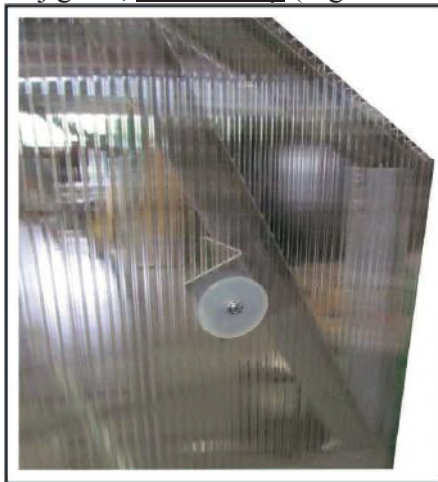

Fig. 18.1
18. The side parts of polycarbonate for the back and the front are fixed analogically. We apply the polycarbonate sheet (700x1950 mm) evenly with an edge of an opening near the door and the back bars and evenly with the foundation. The polycarbonate sheet is tightened to the bar connection angles (19; 20) and the polycarbonate connection plates (21) with M5-20 bolts (28), M5 nuts (30), and gaskets (31). The sheet is tightened to the bars of the rear part of the greenhouse (No. 8) and the bar fixtures (No. 9, No. 10, and No. 11) with M5-40 bolts (29), M5 nuts (30), and gaskets (31). Then cut polycarbonate near the frame profile with a sharp knife or a jigsaw, if necessary (Fig. 18.1 – 18.4).